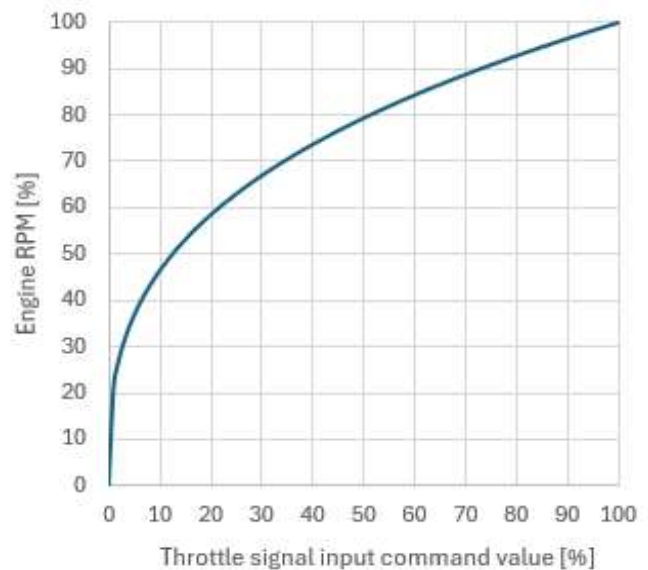

Fig.8.1
• In case the idling rpm doesn't decrease to the value you set in the process ⑤, even if temperature of the engine goes over  $100^{\circ}\text{C}$ , reduce the value by  $-5\mu\text{s}$  each time until the rpm decreases.
**③Throttle full open position [ $\mu$ s]**
**④Throttle start position[%]**
**⑤Idling speed[rpm]**
**⑥Max Speed[rpm]**
• Engine's maximum RPM needs to be set depending on the propeller you use. Because of the generator voltage limit, the maximum RPM for the engine is 8,000 RPM. Set the maximum RPM at 8,000RPM, and start the engine with the propeller you will be using and measure the maximum RPM. Input the maximum rpm to ECU. The ECU will regard this RPM as 100% and control the throttle so that RPM(thrust) corresponds to the % value(indicated value) of the throttle signal input. In other words, the required RPM (thrust) is maintained by opening the throttle to compensate for the drop in RPM caused by power load (power generation). The relation between throttle signal and RPM is calculated based on the theory that work by a propeller is proportional to the cube of its RPM.(Refer to Fig. 8.1)